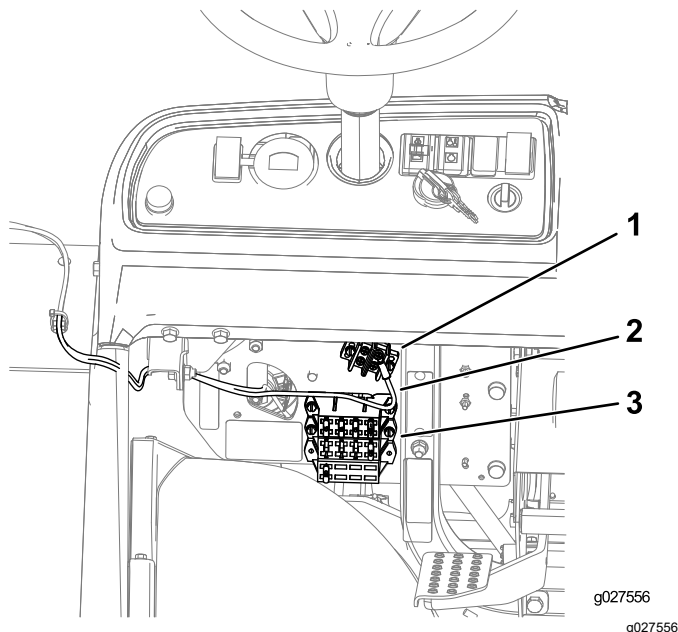

Figure 14
2. **For Workman MDX/MDXD machines:** Connect the ring terminal on the harness to the grounding block on the center dash support (A of Figure 14) and insert the fuse-block connector and the fuse (30 A) into an available fuse-block connection (B of Figure 14).
3. **For Workman MD/MDE machines:** Connect the ring terminal on the harness to the grounding block and insert the fuse-block connector and the fuse (30 A) into an available fuse-block connection (Figure 14).